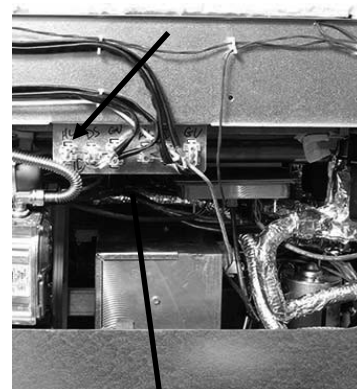

Figure 5
- If replacing the high limit, locate the associated harness connector block to unplug the associated high limit from the inner side of the harness block (see Figure 5).